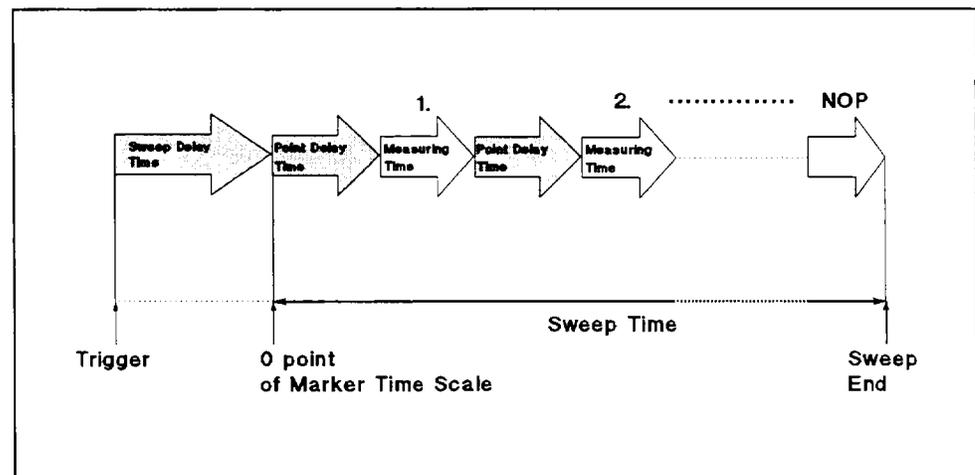

Figure 6-4. Sweep Delay Time and Point Delay Time
- **POINT DELAY TIME** Makes point delay time the active function. When the point delay time is set, the analyzer delays the start of the measurement for the delay time specified at each measurement point. (See Figure 6-4.)
- **SWEEP DELAY TIME** Makes sweep delay time the active function. When the sweep delay time is set, the analyzer delays the start of the sweep for the delay time specified at each sweep. (See Figure 6-4.)
- **COUPLED CH ON off** Toggles channel coupling of the stimulus values. With **COUPLED CH ON** (the preset condition), both channels have the same stimulus values (the inactive channel takes on the stimulus values of the active channel). For information on the parameters that are coupled or uncoupled by the coupling function, see the table after Figure 6-4.
Figure 6-4 shows the relationship between delay time and sweep time. The sweep delay time is not included in the sweep time. The summation of all point delay times is added to the sweep time. When both the sweep delay time and the point delay time are set, the analyzer starts the sweep after waiting for both of sweep delay time and point delay time.